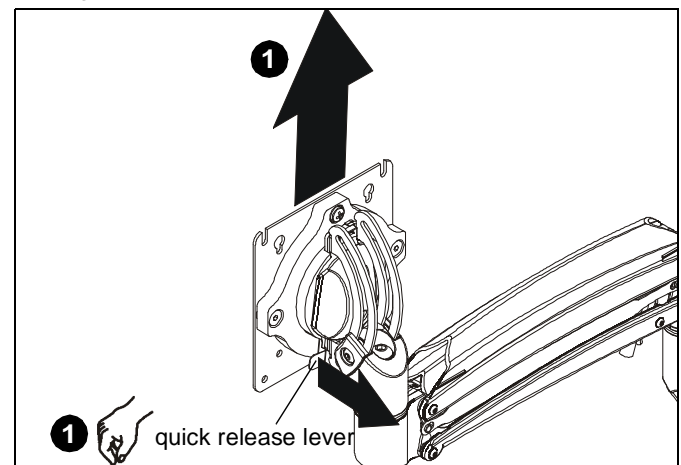

Figure 3
1. Remove quick release faceplate from mount by pulling quick release lever and sliding faceplate off mount. (See Figure 3)